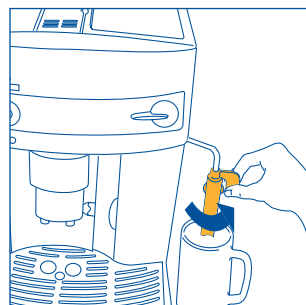
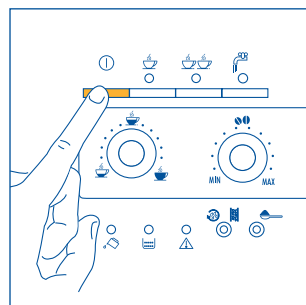
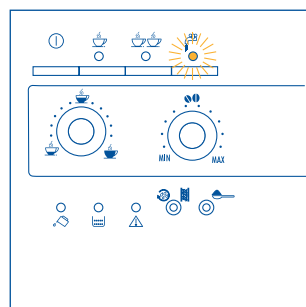

Fig.3
Fig.4
Fig.22
2. Move the milk frother towards the outside and place a cup underneath (Fig.3). Then turn the machine on by pressing the ① button (Fig.4).
- turn the milk frother towards the outside of the machine (Fig. 3).
- Position a container underneath the milk frother (Fig. 3).
- Place an empty recipient under the cappuccino maker (fig. 3). Turn the steam knob a half turn counter-clockwise as far as it will go (the light flashes fig. 22). Run off the steam mixed with water for a few seconds until only steam is given off.